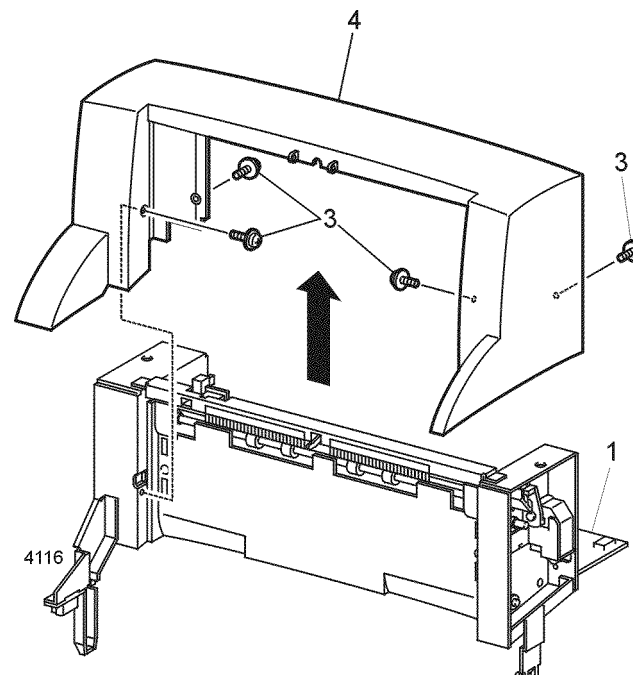

Figure 1 OCT Top Cover
3. Remove the four screws that secure the Top Cover (Figure 1).
4. Lift the cover up to remove (Figure 1).